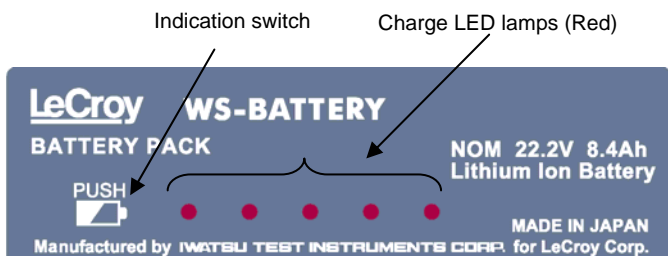

Figure 15. Charge Level Indication and Check
1. An indication switch used to check the remaining battery charge level is provided at the upper portion of the name label of the BATTERY PACK as shown in Figure 15.